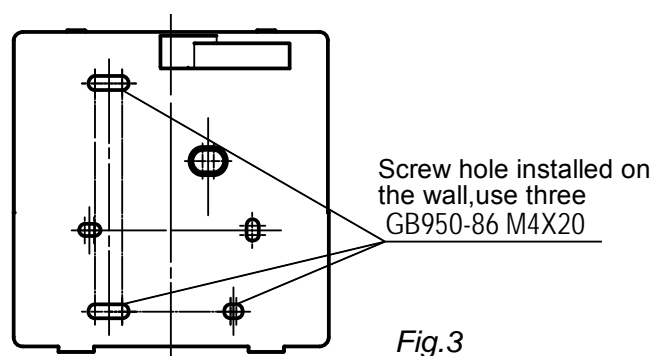

Fig.3
- Use three GB950-86 M4X20 screws to directly install the back cover on the wall. (Fig.3)